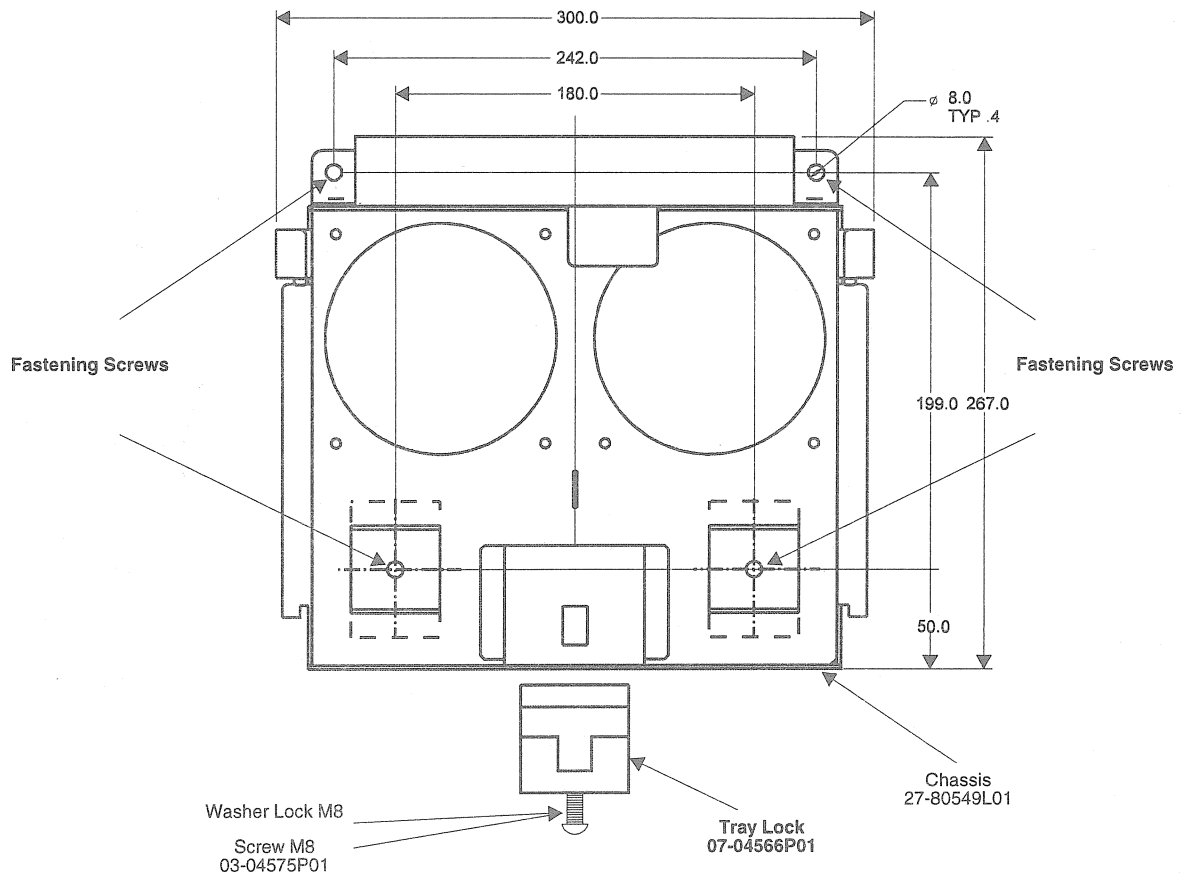

Figure 3. CDT Installation
3.2.1 Installing the CDT (Refer to Figure 3)